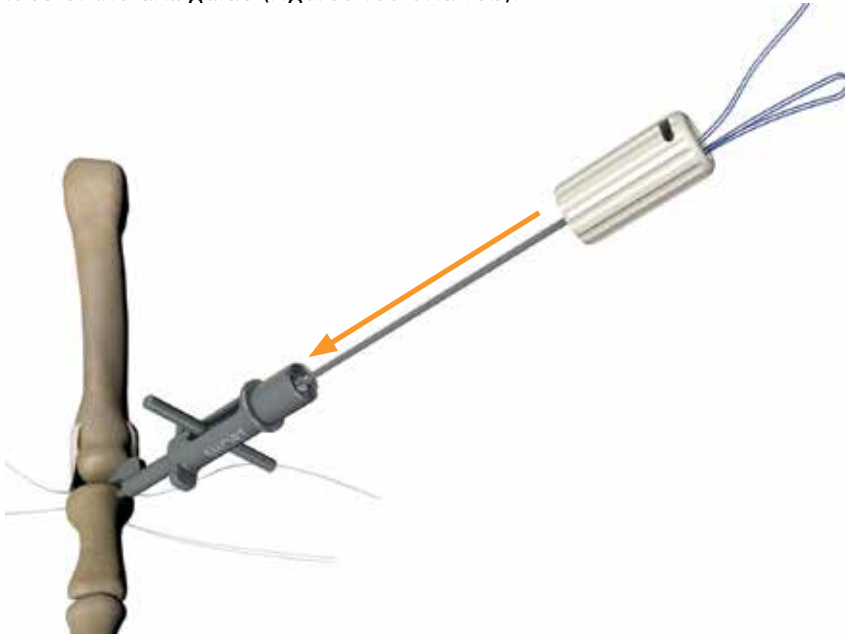

Figure 16a
3. Insert the suture shuttle assembly from the Bilateral procedure pack into the phalangeal drill guide until the suture shuttle bottoms out on the proximal face of the drill guide (Figures 16a and 16b).